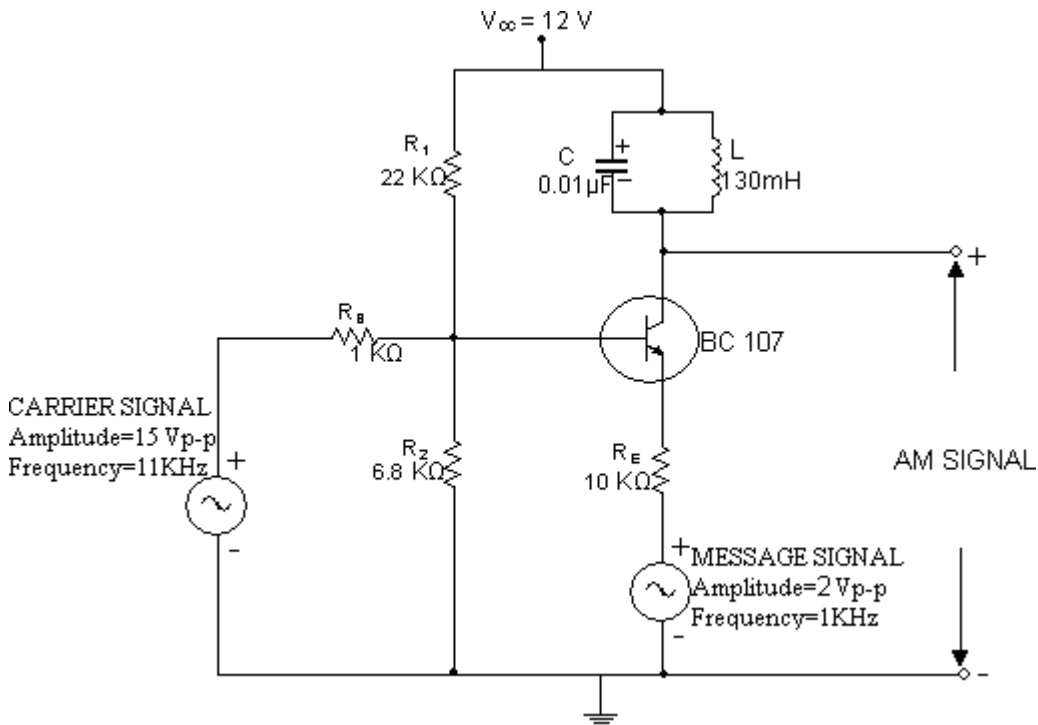

Fig.1.1. AM modulator
1. The circuit is connected as per the circuit diagram shown in Fig.1.1